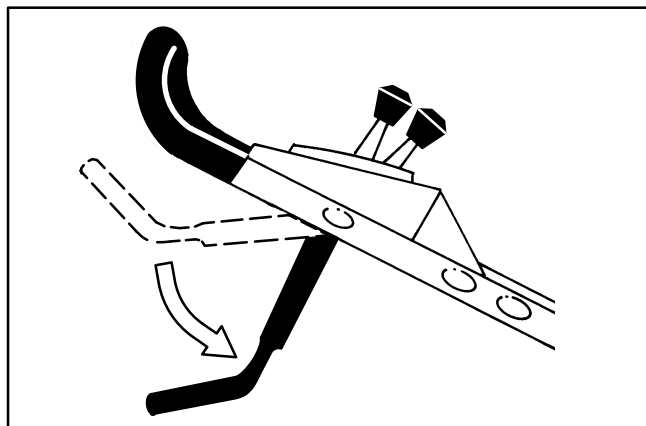

Figure 16
7. Push control bar down to lowest position (Fig. 16).